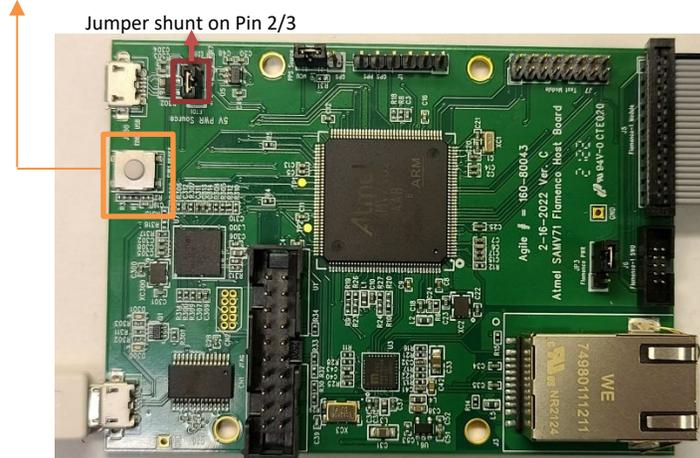

Figure 4. Software Reset Button
3. Make sure that you connect the device to FTDI USB side, and your JP2 connection matches what is shown in Figure 4.